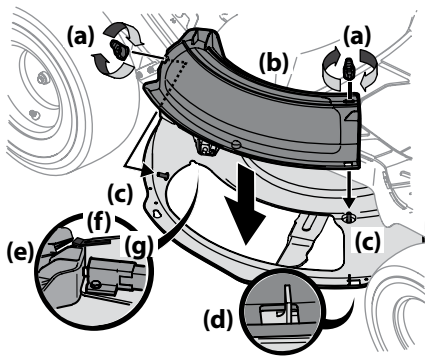

Figure 2-10
1. Remove the wing knobs (a) installed on the mowing deck and retain for later installation. See Figure 2-10.
2. Install the mulch plug (b) into the deck discharge opening on the deck. The rear of the mulch plug (b) should be under the tab (f) on the rear deck bracket (g). The studs (c) on the deck surface will fit through the holes on the upper portion of the mulch plug (b). The small tab (d) on the deck lip area will fit through the square cutout on the lower portion of the mulch plug (b). See Figure 2-10.